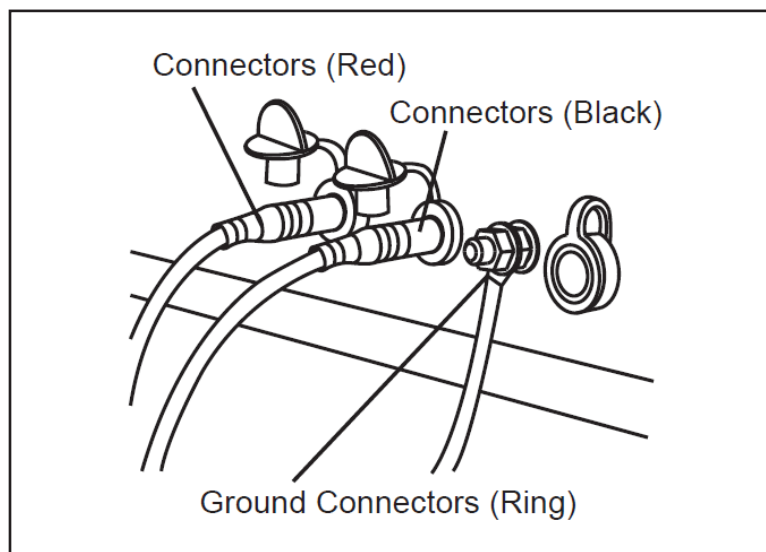

Figure 2 -
4. See the example in Figure 2 .